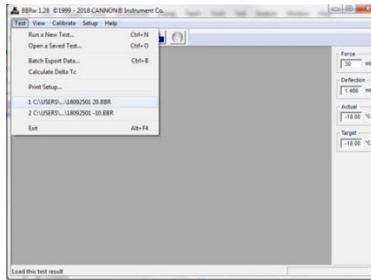

Figure 17: Test Menu Calculate Delta Tc Option
1. From the main menu, open the **Test** tab as shown in Figure 17.